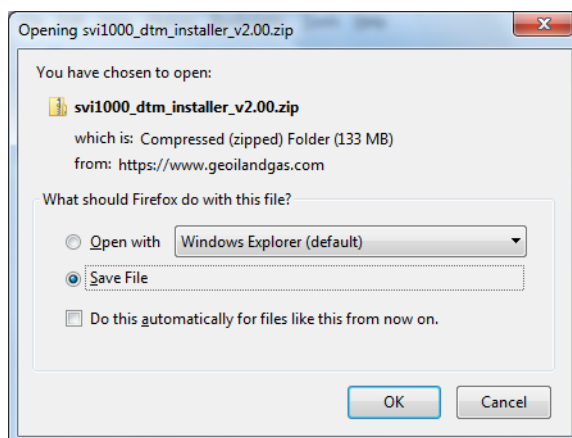

Figure 11 - Opening Dialog
2. Select **Download** below *SVi1000 DTM* and Figure 11 appears.